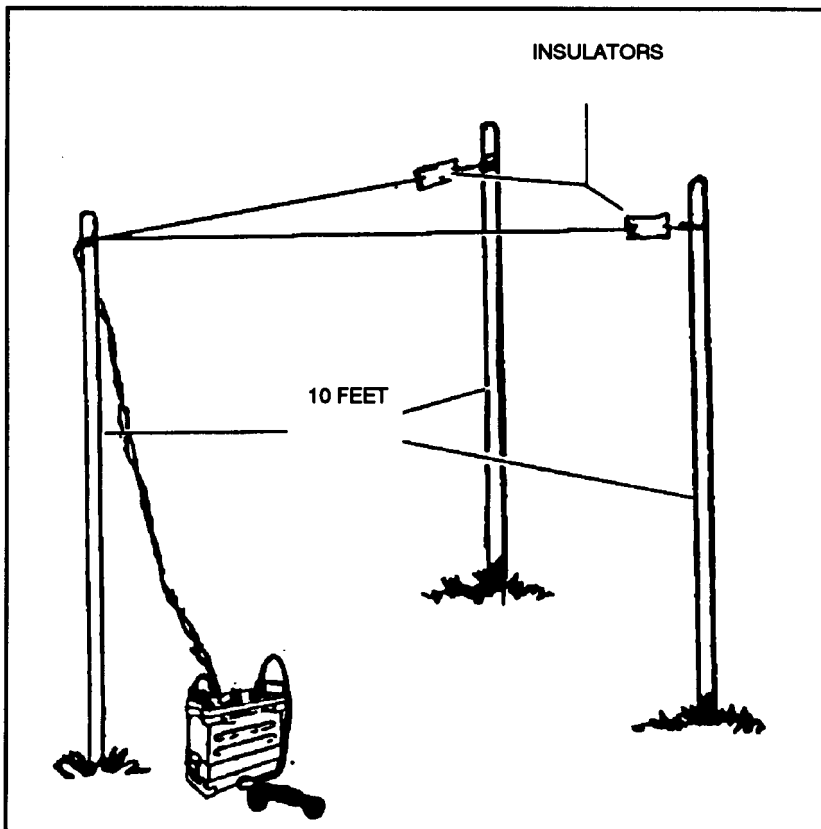
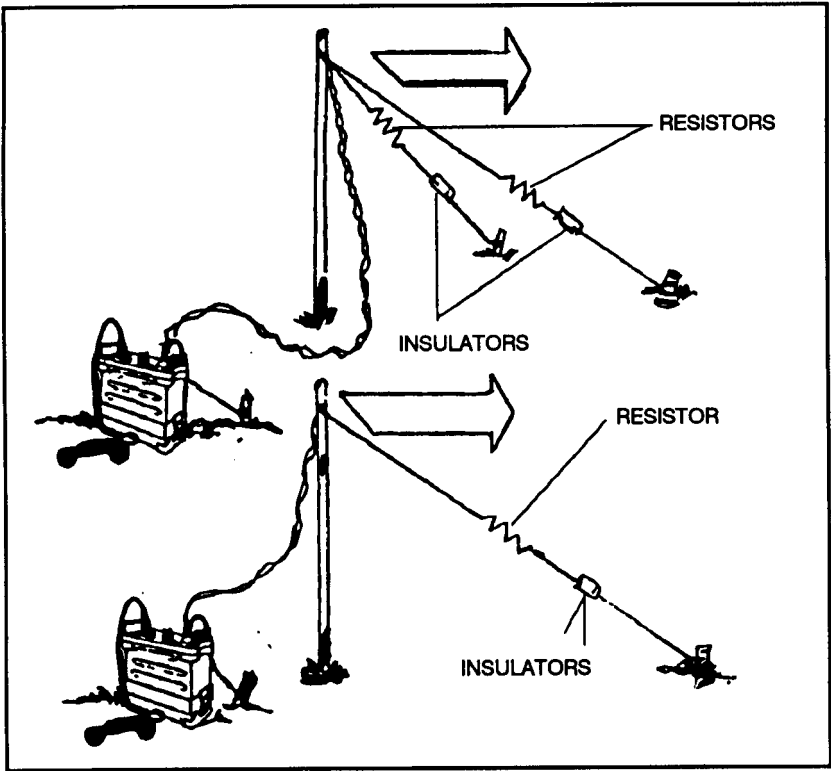

Figure 7-11. V antenna.
Figure 7-12. Sloping-V antenna.
a. The V antenna (Figure 7-11) is another field-expedient directional antenna. It consists of two wires forming a V with the open area of the V pointing toward the desired direction of transmission or reception. To make construction easier, the legs should slope downward from the apex of the V; this is called a *sloping-V antenna* (Figure 7-12). The angle between the legs varies with the length of the legs to achieve maximum performance. (to determine the angle and the length of the legs, use the table in Table 7-1.)